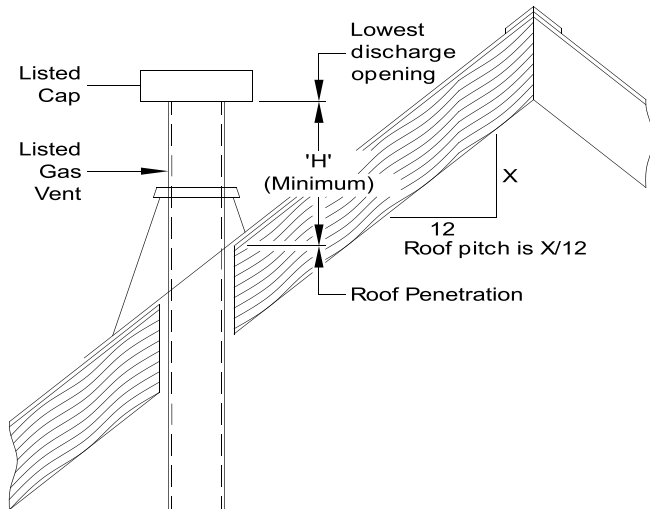

Figure 6-4: Termination Location for Gas Vent
- B. For terminations located at least 8 ft. from vertical wall or similar obstruction, termination shall extend above roof in accordance with Figure 6-4.